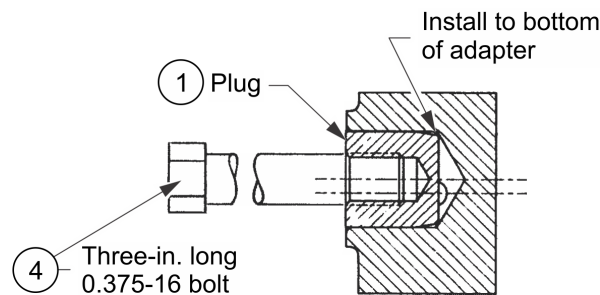

Figure 3. Install Rear Crankcase Plug
2. Clean bearing bore with Loctite 7070 cleaner (see Table 3, item 2).
3. Screw a three-inch long 0.375-16 bolt (4) into plug (see Figure 3, item 1).
4. Coat exterior circumference of plug (1) with Loctite 222 sealant (3).
5. Tap plug (1) in bearing cavity. Ensure that plug (1) is bottomed in cavity.
6. Remove 0.375-16 bolt (4) from plug (1).